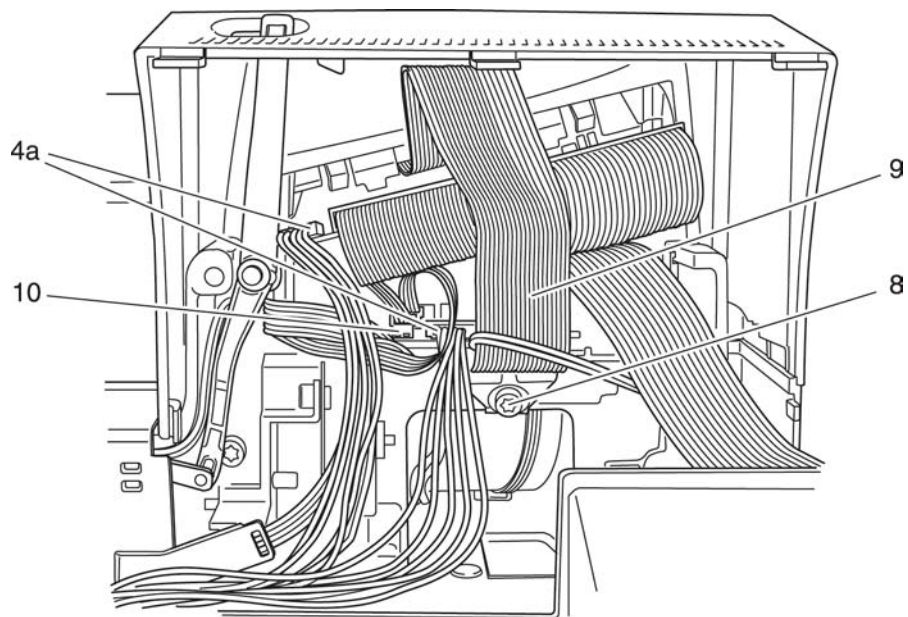

Fig. 3
- Remove (loosen) fastening screw 8 of ground strap 9 (fig. 3).